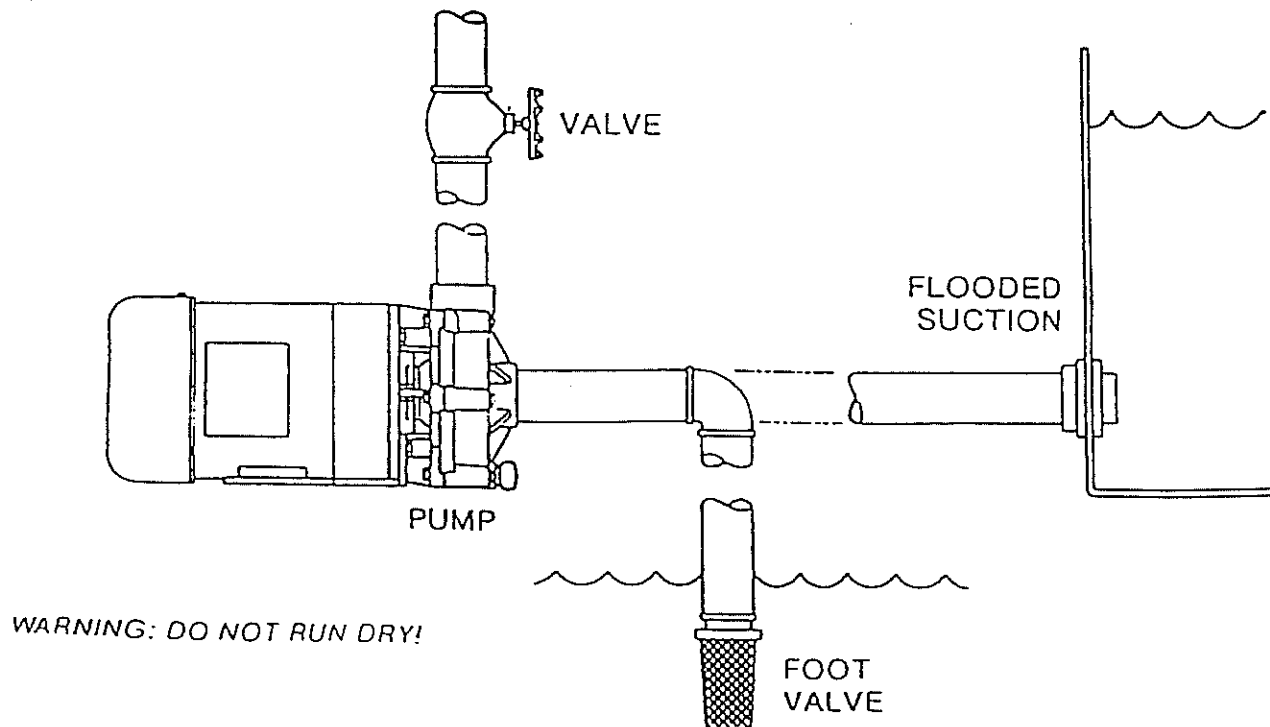

FIGURE 2
1. Locate pump as near the source to be pumped as possible. A flooded suction situation is preferred. The pump is *not* self-priming, therefore, if the fluid level is below the pump, a foot valve must be installed and the pump primed prior to start-up. (Figure 2)